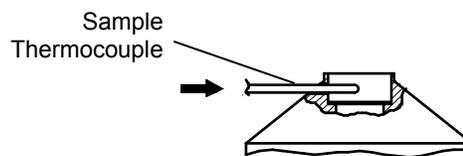

Figure 34 • Repositioning the Thermocouple
- Slide the thermocouple back in, until the end of the thermocouple is roughly in the center of the cup (see Figure 34).
- If the CHC is to be operated at temperatures above 100°C or below 0°C, use 1/4" tubing to connect the two cooling ports (see Figure 34) to a water inlet/outlet or a coolant circulator. If needed, use a hose clamp to secure the tubing to the barbed fitting.
- If vacuum is desired, connect the gas outlet (1/4" VCO fitting, see Figure 34) to a vacuum pump or other source of vacuum using 3/8" I.D. vacuum tubing. Seal off the two gas inlet/outlet ports.
- If reaction or process gas/es are to be passed through the sample, connect the gas inlet/outlet ports (1/4" VCO fitting, see Figure 34) as needed to the gas source/s. Connect the gas outlet and seal off any unused gas ports.